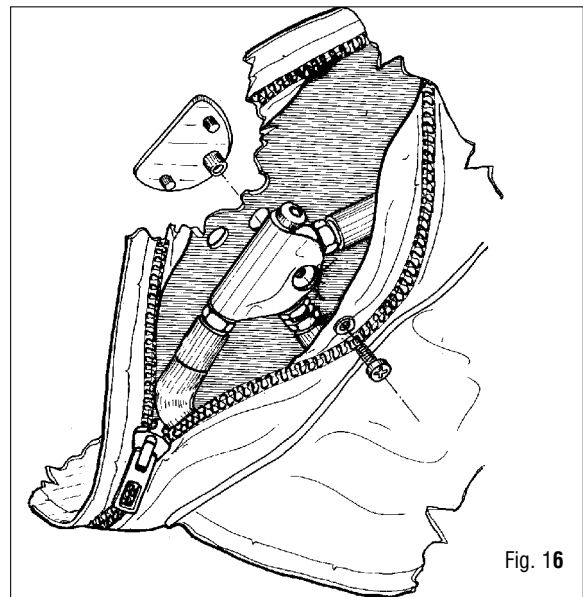

Fig. 16
118. Using two 17 mm wrenches (B-17), screw 2nd stage hose to connector (50). Position manifold support (48) on the outside of pocket, in correspondence with bag ports. (Fig. 16)
119. Install 4-way manifold on support pins and screw it using screw (26) with corresponding washer (25) in the central hole of distributor, using a screwdriver (USAG 322 PH 1 type). (Fig. 16)